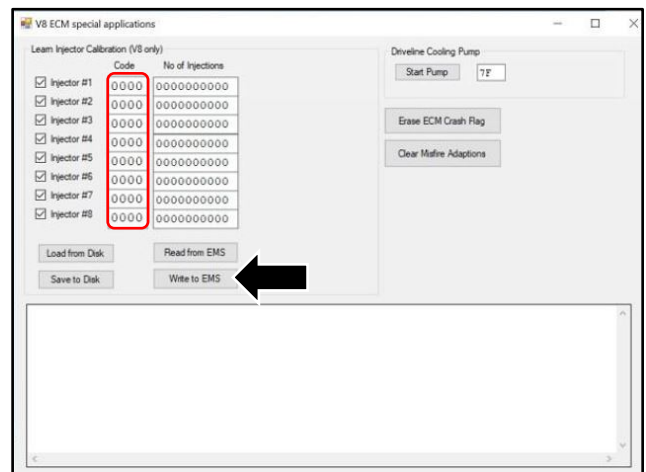

Figure 10
16. If the injector codes from step 8 are shown select "Write to EMS" (refer to Figure 10).